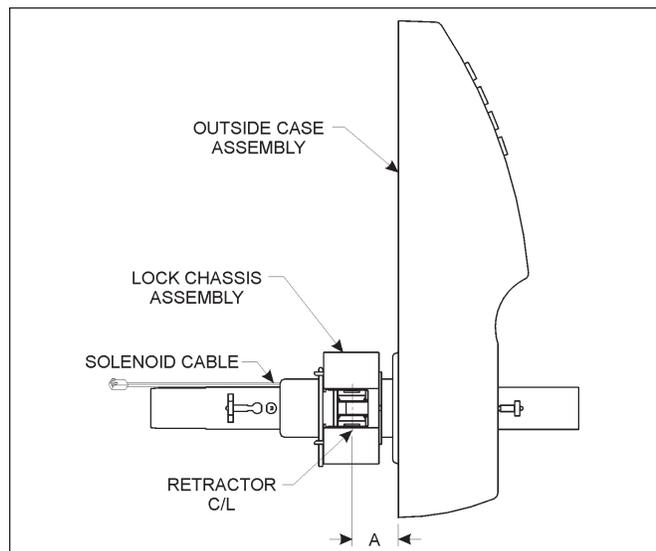

Figure 8
1. Screw the lock chassis assembly in or out of the outside case assembly to obtain dimension "A" as shown in Figure 8. The dimension "A" equals one-half of the door thickness as shown in the following chart.